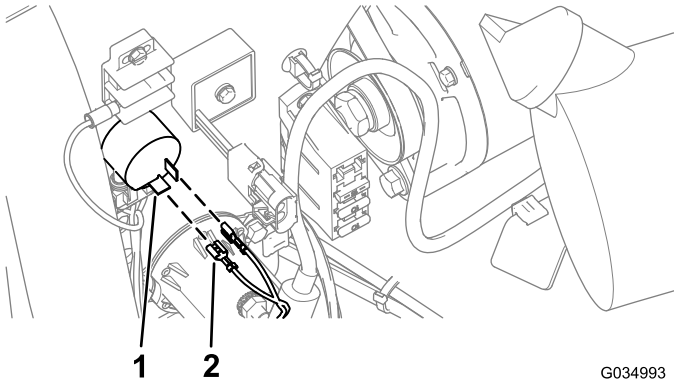

Figure 10
6. Connect the 2 female connectors on the kit wire harness to the 2 male connectors on the alarm (Figure 10).